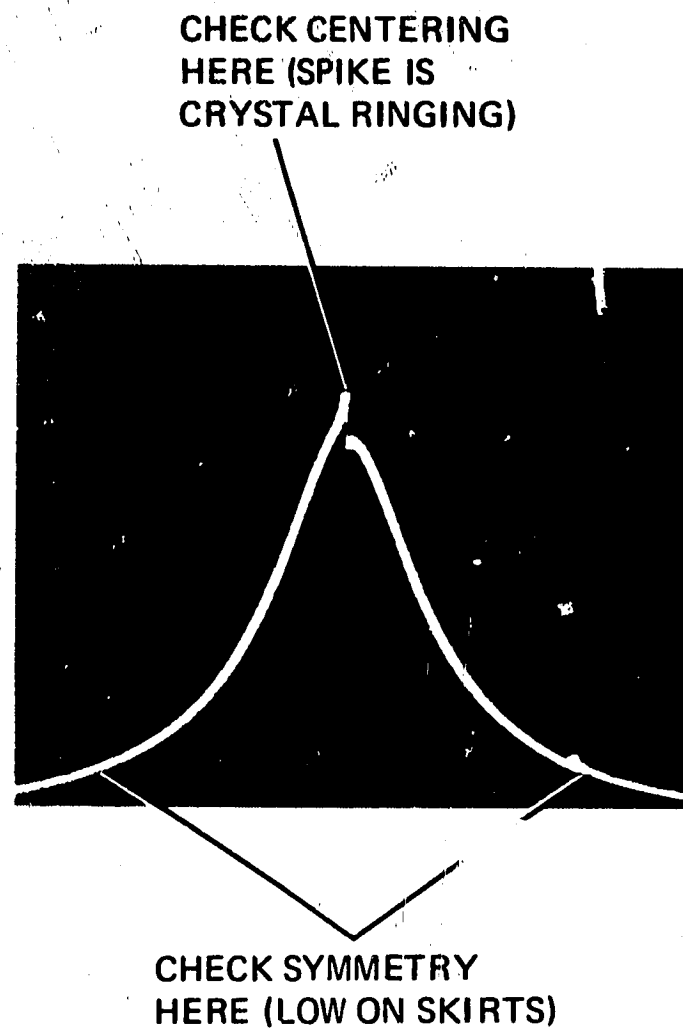

Figure 5-5. Crystal Symmetry and Crystal Centering Display
4. Adjust A10C5 XTL SYM and A10C6 XTL CNTR adjustments for best symmetry and centering. Crystal center adjustment A10C6 is adjusted for minimum signal amplitude. (See Figure 5-5.)
6. Adjust A10C2 XTL SYM and A10C3 XTL CNTR adjustments for best symmetry and centering. Crystal center adjustment A10C3 is adjusted for minimum signal amplitude. (See Figure 5-5.)
8. Adjust A8C5 XTL SYM and A8C6 XTL CNTR adjustments for best symmetry and centering. Crystal center adjustment A8C6 is adjusted for minimum signal amplitude. (See Figure 5-5.)
10. Adjust A8C2 XTL SYM and A8C3 XTL CNTR adjustments for best symmetry and centering. Crystal center adjustment A8C3 is adjusted for minimum signal amplitude. (See Figure 5-5.)